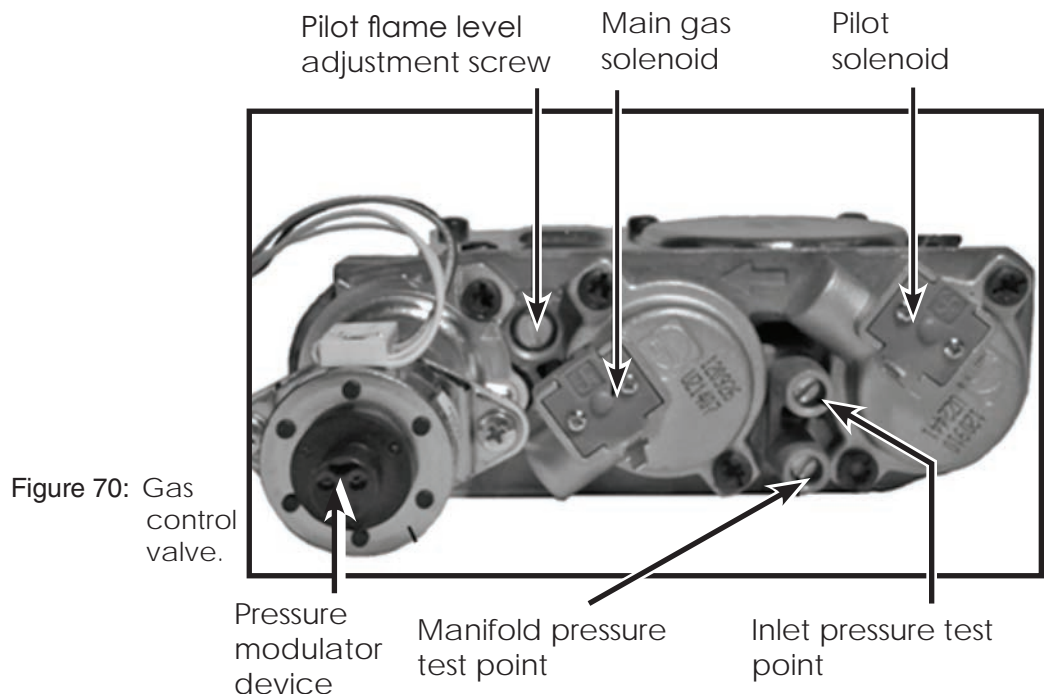

Figure 70: Gas control valve.
2. Locate the inlet and outlet test points on the valve (Figure 70).
The pilot flame level can be adjusted by turning the adjustment screw, using a flat-tip screwdriver, as seen on the valve in (Figure 70).